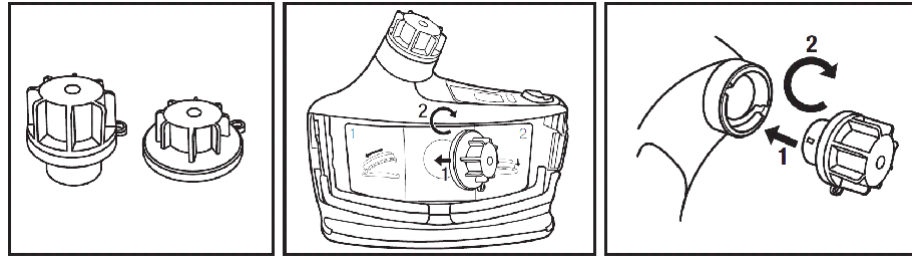

Figure 1. Installing the inlet and outlet plugs from the TR-653 Cleaning and Storage Kit
- If submersion cleaning is desired, remove the filter/cartridge and breathing tube. To minimize material falling onto the motor/blower, remove the filter/cartridge and breathing tube while each of those connections are facing downward. Attach the air inlet and air outlet cleaning and storage plugs (3M™ Cleaning and Storage Kit TR-653) into the TR-600 (see Fig 1). The TR-600 can now be rinsed under running water, submersed in water, or put in a respirator washer for further cleaning. Water temperature should not exceed 122°F (50°C). Blowers which have been dropped or damaged